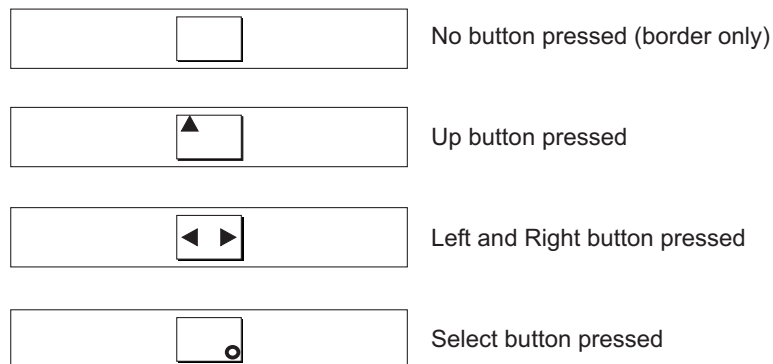

Figure 35. Front panel display when push buttons pressed
3. Press the up, down, left, and right buttons to verify that they are working. See Figure 35, which shows four examples of what the front panel should display when you press the buttons. When you have finished testing the buttons, press and hold the select button for five seconds to exit the test.